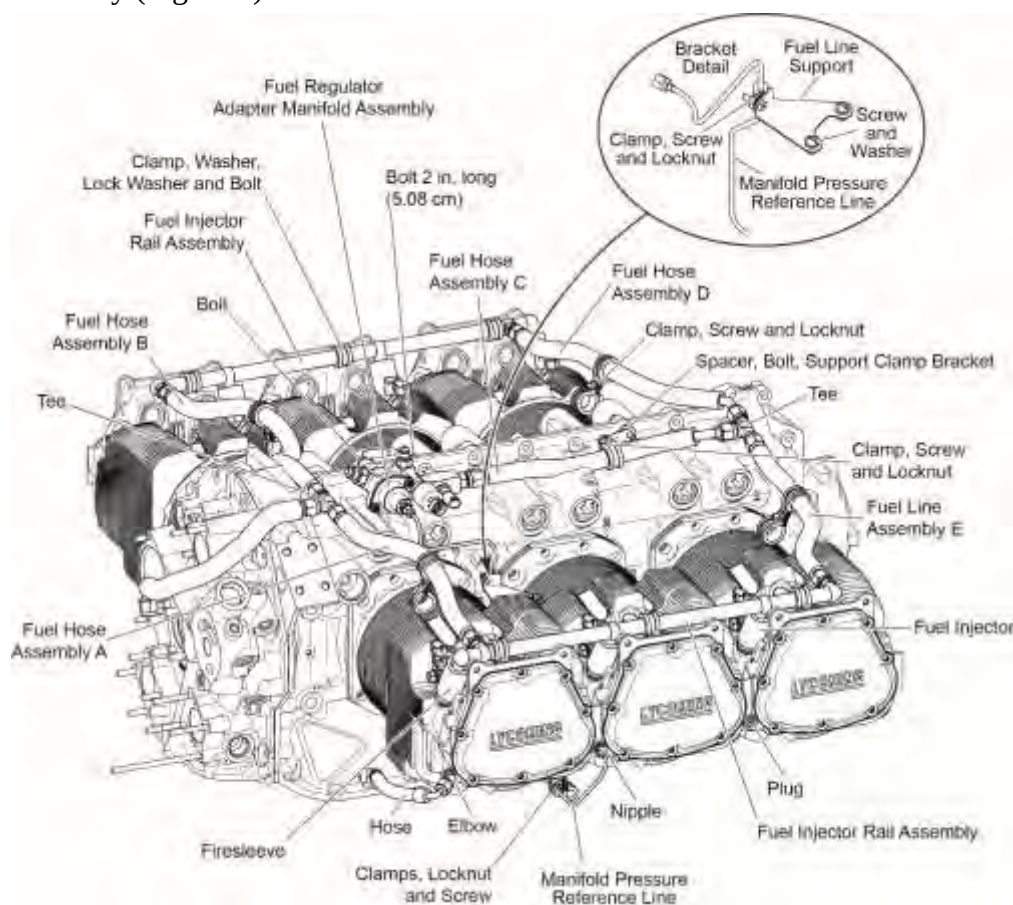

Figure 7
NOTICE: Fuel hoses are identified as A, B, C, D, and E in Figure 7
NOTICE: As shown in Figure 7, there are two fuel injector rail assemblies, one on each side of the engine. Each fuel injector rail assembly is attached to fuel hoses and the fuel injectors on the three engine cylinders on each side of the engine.
- (1) Remove the harness connector from all three fuel injectors on the affected fuel injector rail assembly.
- (2) Remove the screw and lock nut from each of the two clamps that attach the wiring harness to the fuel injector rail assembly. Discard the lock nuts.
- (3) Move the wiring harness so it does not interfere with fuel injector rail assembly removal.
- (4) Put a fuel collection container under the side of the engine where the fuel injector rail assembly (Figure 7) is to be removed.
- (5) Loosen the cap on the fuel pressure regulator bleed port to release pressure from the fuel hoses.
- (6) Disconnect the two fuel hoses (identified as A and E or B and D in Figure 7) from the fuel injector rail assembly coupling at each end of the fuel injector rail assembly to be removed.
(6) Install the fuel injector rail with the fuel injectors installed (Figure 7) on the engine with the fuel injectors installed in the fuel injector adapters.
(7) Torque the coupling on each end of the fuel injector rail in accordance with the Standard Torque Tables in the latest revision of the **Service Table of Limits - SSP-1776**.
(8) Install the clamps on the fuel injector rail each with a bolt, washer, and new lock washer. Torque the bolts in accordance with the Standard Torque Tables in the latest revision of the **Service Table of Limits - SSP-1776**.
(9) Connect the fuel hoses (A and E or B and D in Figure 7) to the fuel injector rail coupling at each end of the fuel injector rail. Torque in accordance with the Standard Torque Tables in the latest revision of the **Service Table of Limits - SSP-1776**.
(10) Attach the each of the three fuel injector harness connectors to applicable fuel injectors.
(11) Attach the wiring harness to the fuel injector rail with the two clamps, screws, and new lock nuts. Torque the lock nuts in accordance with the Standard Torque Tables in the latest revision of the **Service Table of Limits - SSP-1776**.
(12) Install and tighten the bleed cap on the fuel pressure regulator bleed port.
(13) Look for any fuel leaks. Identify and correct the cause of any fuel leaks. There must not be any leaks. All fuel connections must be secure and torqued in accordance with the Standard Torque Tables in the latest revision of the **Service Table of Limits - SSP-1776**.
(14) If leaks or malfunctions were found and corrected, operate the engine again to make sure it is operating correctly and there is no leak anywhere.